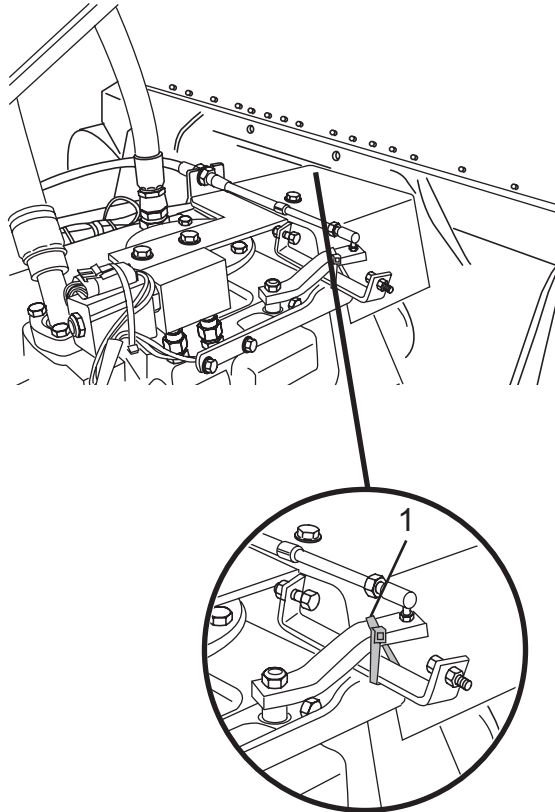

Figure 16
1. Remove the cable tie (Figure 16, Item 1) securing the hydraulic pump linkage in the TRANSPORT mode. The TRANSPORT mode constantly rotates the drum in the CHARGE direction at a speed of 1 to 1-1/2 RPM. This prevents the drum rollers from becoming damaged during transport.